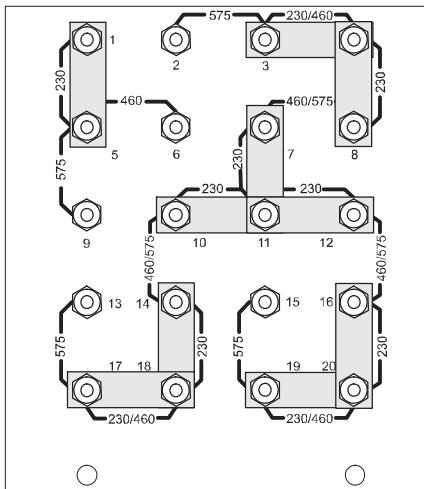

Fig 4a
- 2. 60 Hz Models** - As shipped from the factory, the ESP-150 is configured for the highest connectable voltage. If using other input voltages, the links on the terminal board (TB) inside the unit must be repositioned for the appropriate input voltage. See figures 4a, 4b and 4c for input voltage configurations. To gain access to the terminal board, open the access panel on the left side.